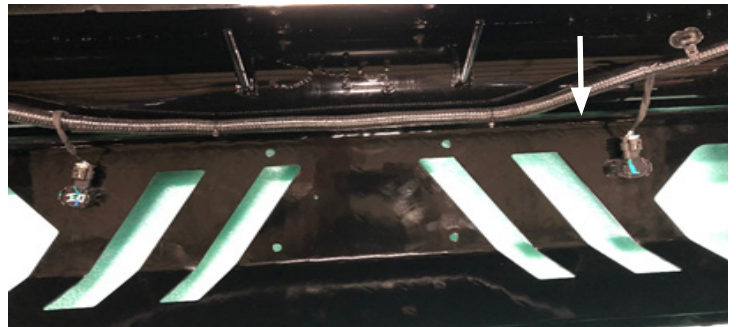

Figure 20
19. Take the sensors, sensor housings and harness and install them into the bumper. Install the sensors by pushing the housings into the sensor holes from the outside of the bumper and connecting the sensors into the housings. Use epoxy (61632) around the housings to keep them in place,. Plug the harness into each sensor and the fog lights. (Figure 20)